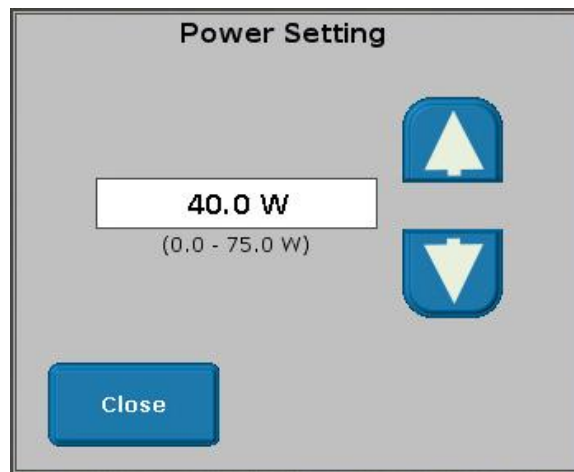

Figure 3-39. Example of a treatment parameter control panel
- a) Press the **Power Setting** button: Press the up and down arrows to adjust the microwave power setting (from 0.0 W to 60.0 W for a CTC Advance Short Microwave Catheter, and from 0.0 W to 75.0 W for a CTC Advance Standard or Long Microwave Catheters) in 1 W increments (Figure 3-39). Press the **Close** button when done.